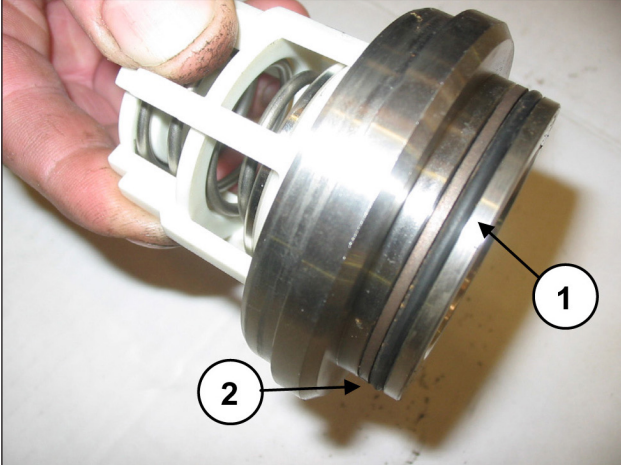

Fig. 117
Assemble the O-ring, exploded view pos. 6 (pos. ①, Fig. 117) and the anti-extrusion ring, exploded view pos. 16 (pos. ②, Fig. 117) on the outlet valve housing.